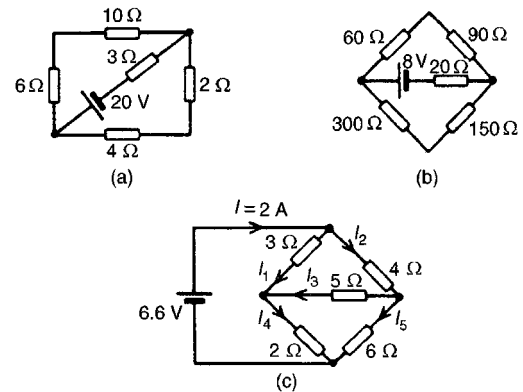

Figure 13.14
- 4 Find the current flowing in the 3Ω resistor for the network shown in Fig. 13.14(a). Find also the p.d. across the 10Ω and 2Ω resistors.
- 5 For the network shown in Fig. 13.14(b) find:
- 6 For the bridge network shown in Fig. 13.14(c), find the currents I_1 to I_5